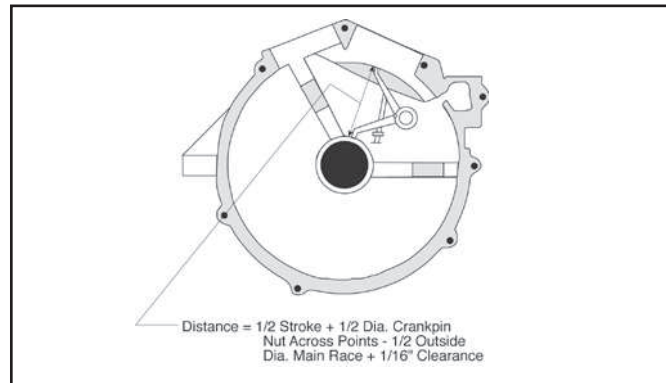

Figure 2
- B. Use divider to scribe arc on blued bosses. **See Figure 2.** Formula for spread of divider is: